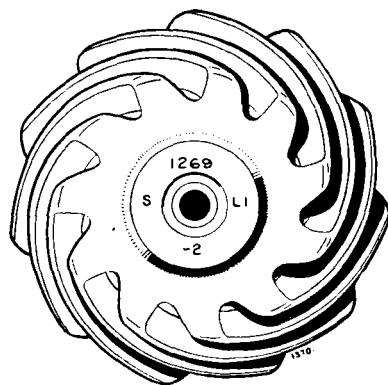
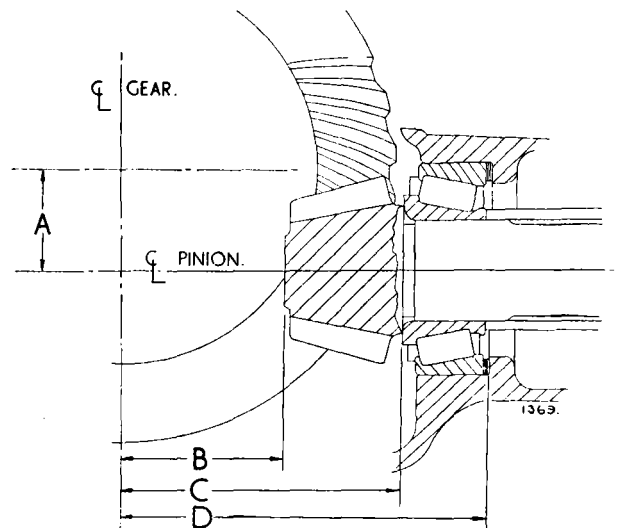

Fig. 14. Pinion setting marks.
Fig. 15. Pinion setting distances.
The correct pinion setting is marked on the ground end of the pinion as shown in Fig. 14. The matched assembly serial number at the top is also marked on the drive gear, and care should be taken to keep similarly marked gears and pinions in their matched sets, as each pair is lapped together before despatch from the factory. The letter on the left is a production code letter and has no significance relative to assembly or servicing of any axle. The letter and figure on the right refer to the tolerance on offset or pinion drop dimension "A" in Fig. 15 which is stamped on the cover facing of the gear carrier housing.
The number at the bottom gives the cone setting distance of the pinion and may be Zero (0). Plus (+) or Minus (-). When correctly adjusted, a pinion marked Zero will be at the zero cone setting distance, dimension "B" in Fig. 15 from the centre line of the gear to the face on the small end of the pinion; a pinion marked Plus two (+2) should be adjusted to the nominal (or Zero) cone setting plus .002", and a pinion marked Minus two (-2) to the cone setting distance minus .002".
The zero cone setting distances ("B" Fig. 15) for the various axles are given below.